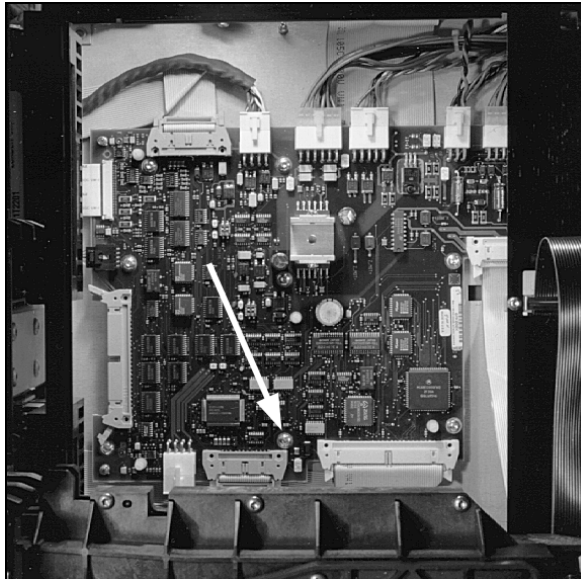

Figure 5-45. Controller PCA - Cover Off
7. Remove the nine T-15 screws (with cone washer) that mount the PCA to the chassis. (The nine screws are indicated by the single arrow in Figure 5-45.)